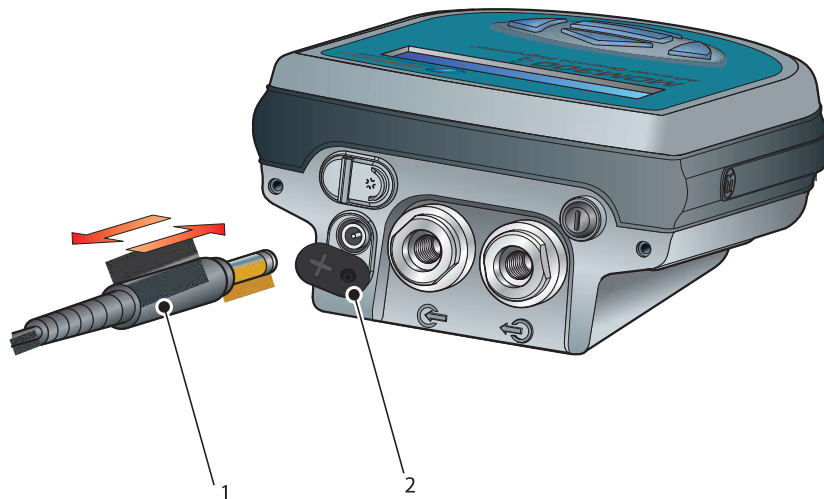

Figure 9 Battery Charger Connection
Loosen the securing screw and swing aside the sealing cover (2). Insert the battery charger connector (1) into the charger connector as shown in *Figure 9*.